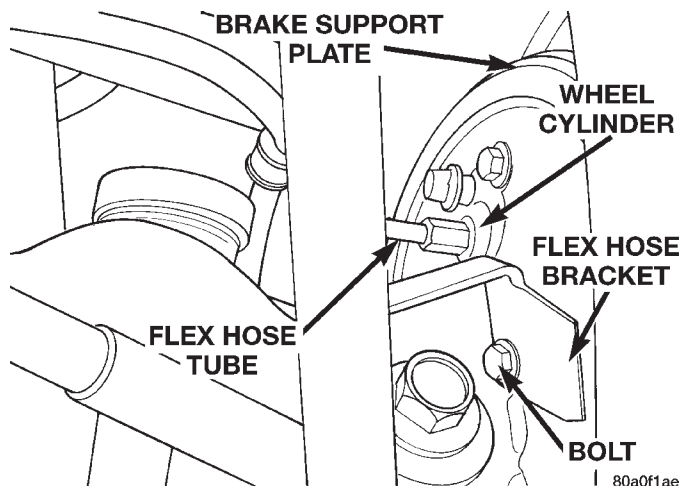

**Fig. 74 Brake Flex Hose Tube At Wheel Cylinder**
(6) Disconnect rear brake flex hose tube from wheel cylinder and remove the brake flex hose bracket from the brake support plate (Fig. 74).